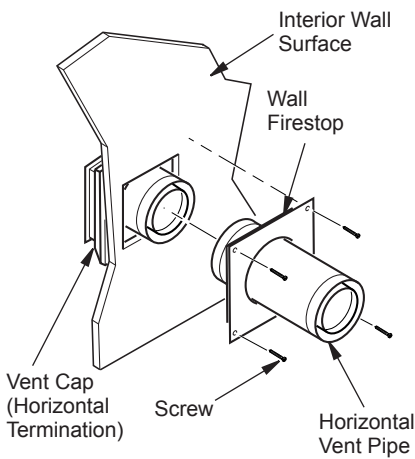
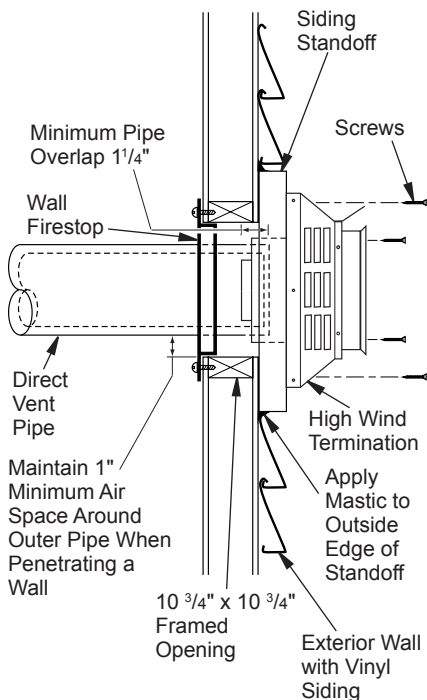

Figure 12 - Connecting Vent Cap with Horizontal Vent Pipe
Figure 13 - Typical Horizontal Termination Cap Mounting with Additional Siding Standoff Installed
7. **Combustible Exterior Wall Only:** Slide the wall firestop over the vent pipe before connecting horizontal run to vent cap (see Figure 12).
8. Carefully move fireplace, with vent assembly attached, toward wall and insert vent pipe into horizontal termination. The pipe overlap should be a minimum of 1 1/4" (see Figure 13, page 12).
9. **Combustible Exterior Wall Only:** Slide wall firestop against interior wall surface and attach with screws provided (see Figure 12). See Figure 13, page 12 for horizontal termination details.